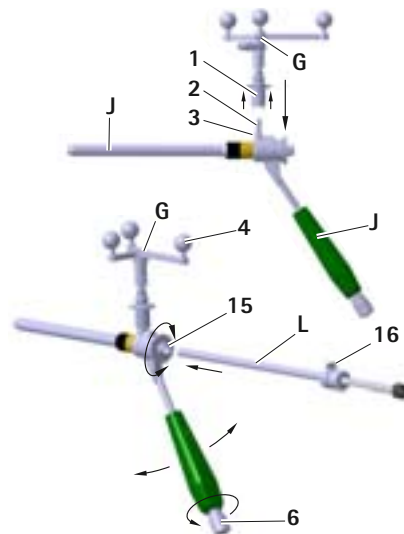

Fig. 11 Mounting the Aesculap star unit onto the S⁴C guide sleeve; inserting the S⁴C drill guide
- To ensure the camera has an unrestricted view of the reflective marker spheres, unscrew knob **6** on the S⁴C handle of the navigated S⁴C guide sleeve **J** and turn the Aesculap star unit **G** to the desired position, see Fig. 11.
- Push inner sleeve guide **L** onto the inner sleeve **15**. The inner guide sleeve engages on the inner sleeve and can still be rotated, see Fig. 11.